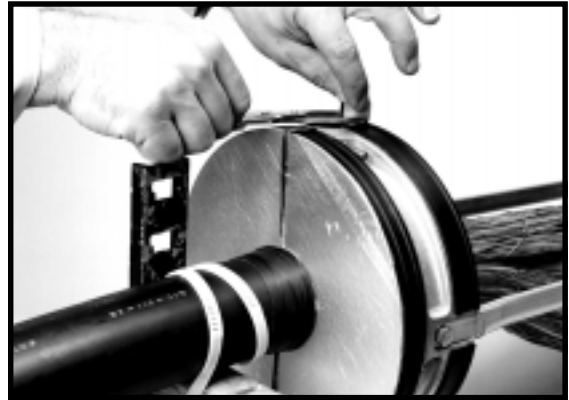

FIGURE 18 - TRIMMING EXCESS LOCK-TAPE STRIP
6.17 When end plates are completely together, trim excess LOCK-TAPE strips with snips to within approximately 1/4" (.62 cm) of the end plate. Do not pull the tape when trimming. (Figure 18)